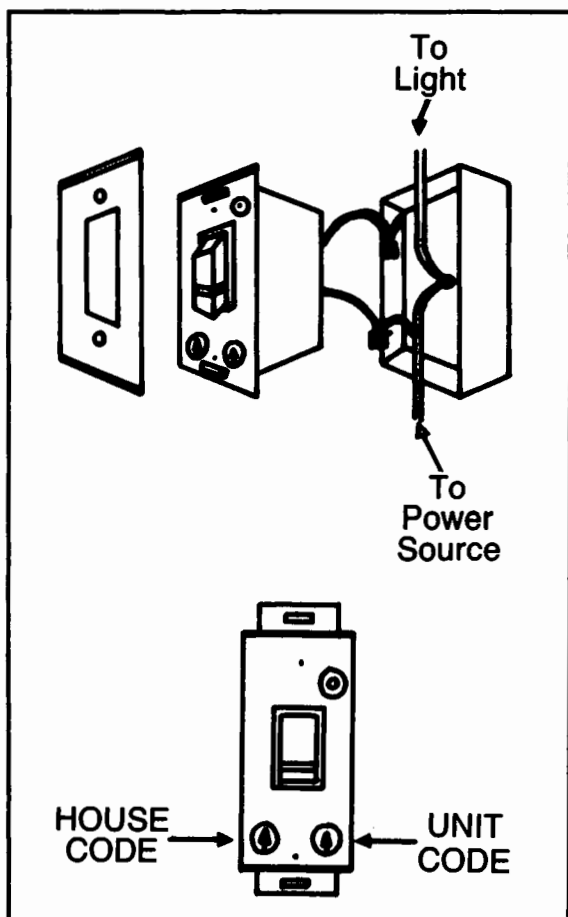

Fig. 6-3. Wall Switch Module installation.
5. Connect leads as shown in Fig. 6-3, blue lead from the Wall Switch module to white wire and black lead to the black wire. Be sure to use wire nuts (provided) for insulation.